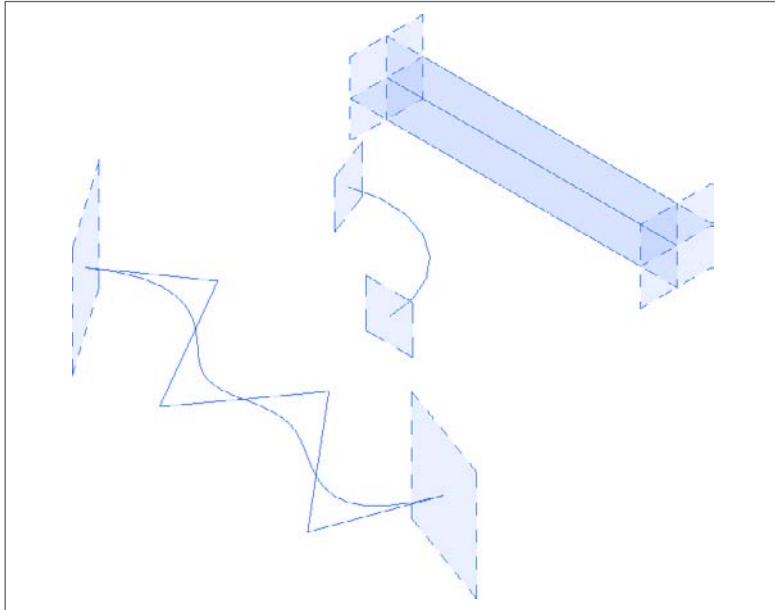

Figure 7.9
- Can be curved, including splines. These create work planes perpendicular to the start and end of the shape (as shown in Figure 7.9).